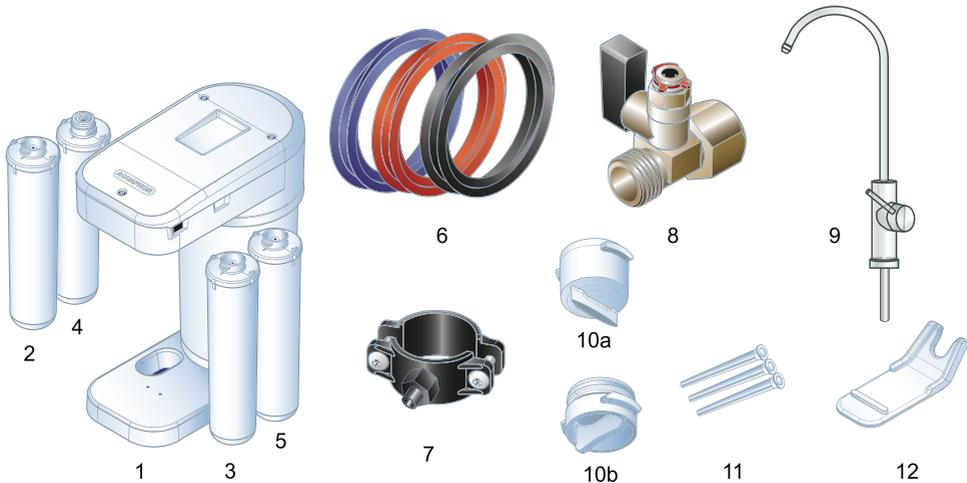

Figure 1. Product assembly
- Remove the service cap (figure 1; position 10b), which is located under the water filter cap.